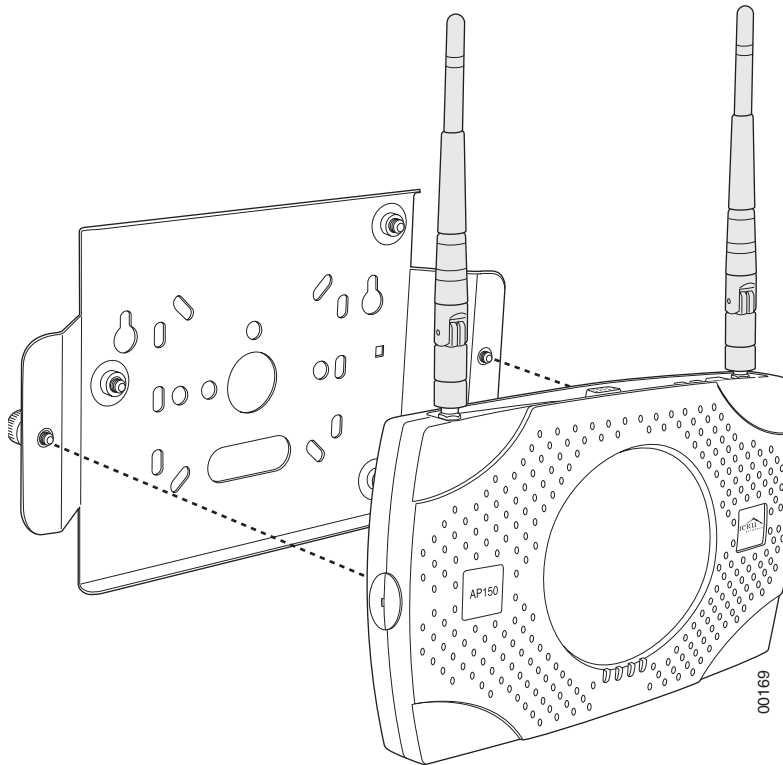

Figure 36: Aligning the AP150 with the Bracket
8. Align the AP150 with the bracket thumbscrews (see Figure 36) and tighten the thumbscrews to attach the bracket.
9. Align the AP150 with the bracket thumbscrews (see Figure 36) and tighten the thumbscrews to attach the bracket.